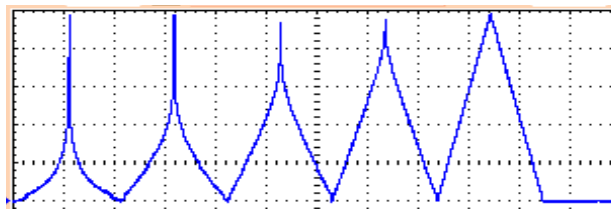

Figure 8b: Curves 5-9
- Next 4 curves are symmetrical, ranging from exponential to linear in 4 interpolated steps. *Figure 8b*